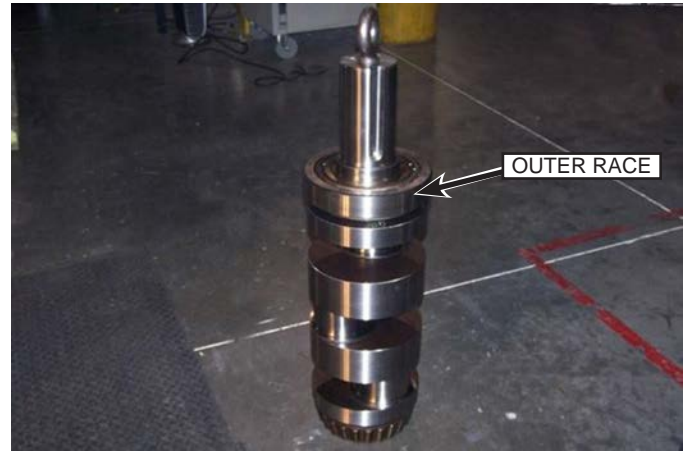

Fig. 157: Outer Race Installation
5. Install the outer bearing race (Fig. 157) onto the inboard bearing.